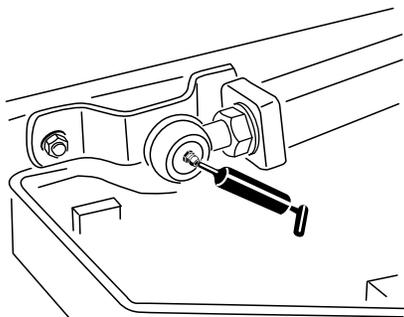

Figure 70
- 2 lift-arm-ball joints (Figure 70)